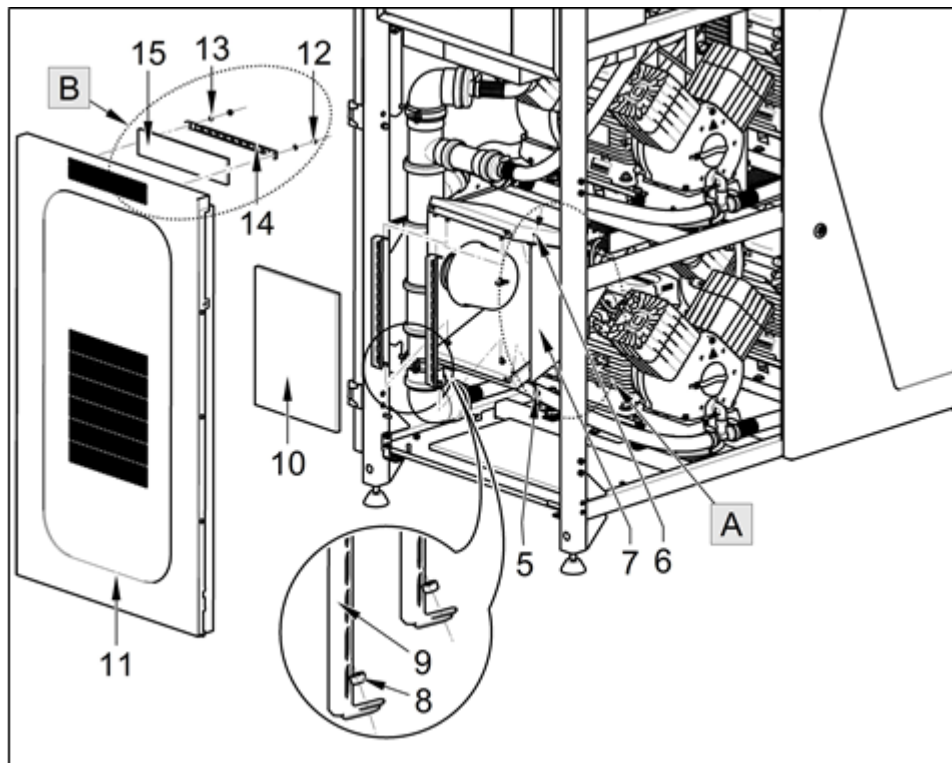

Fig. 31: Compressor inlet filter cleaning/replacement
- At Point A, remove the foam, remove the 4 screws (5), washers (6) and remove the suction filter cover (7). (Fig. 31)
- Remove the 2 nuts (8) on the filter bracket (9) and remove the filter (10).
- At Point B (on the sides (11), remove the 2 nuts (12), washers (13), release the filter bracket (14) and remove the filter (15).